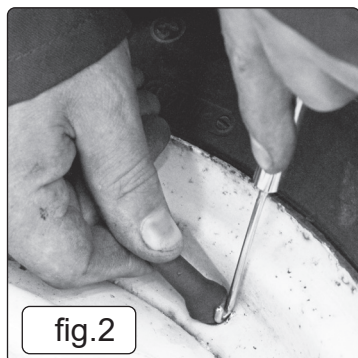

fig.2
- 4.1.2. Push the tyre valve body to one side and insert the valve hook tool between the tyre valve and the valve hole in the wheel rim (fig.2).